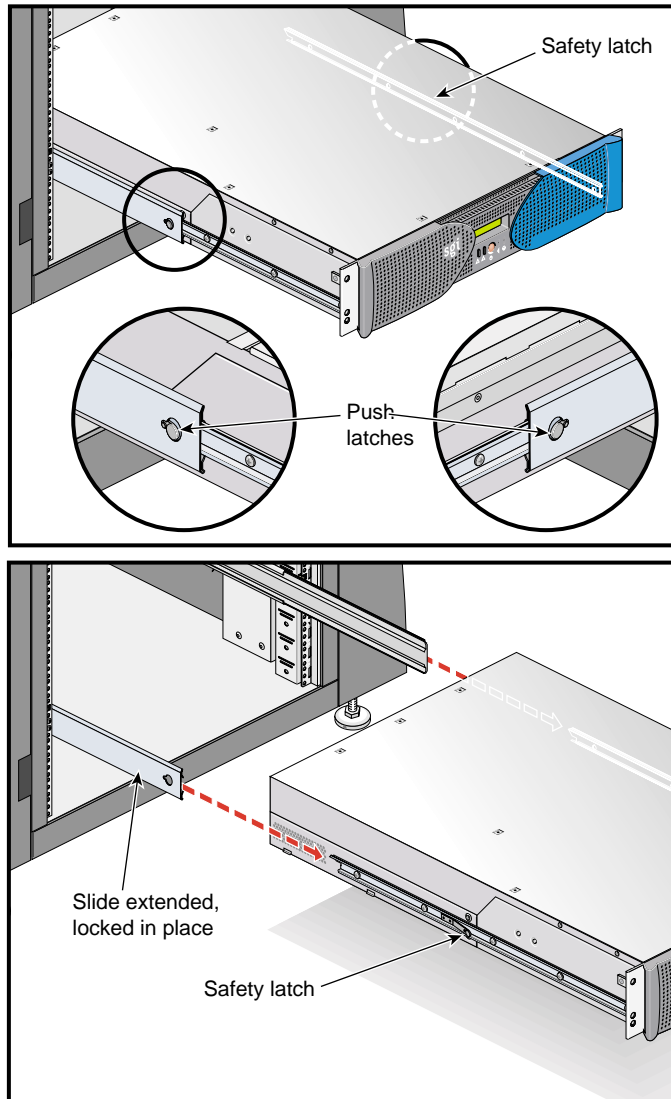

Figure C-15 Releasing the Safety Latches
5. With one person holding each side, release the safety latches on both sides of the brick and pull the brick out of the slide rail (see Figure C-15).